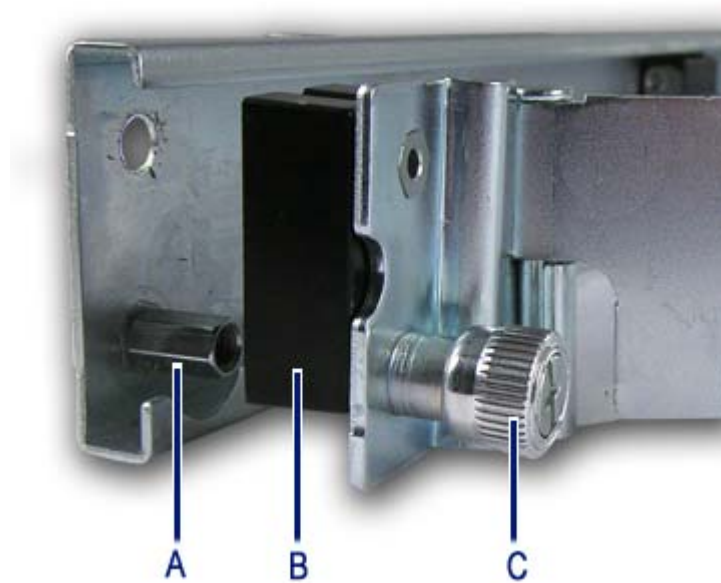

Figure 55: Installing the Spacer Block
4. Attach the cable arm (along with the spacer block) to the rear of the sliding rail using the captive thumbscrews (letter “A” on Figure 55).